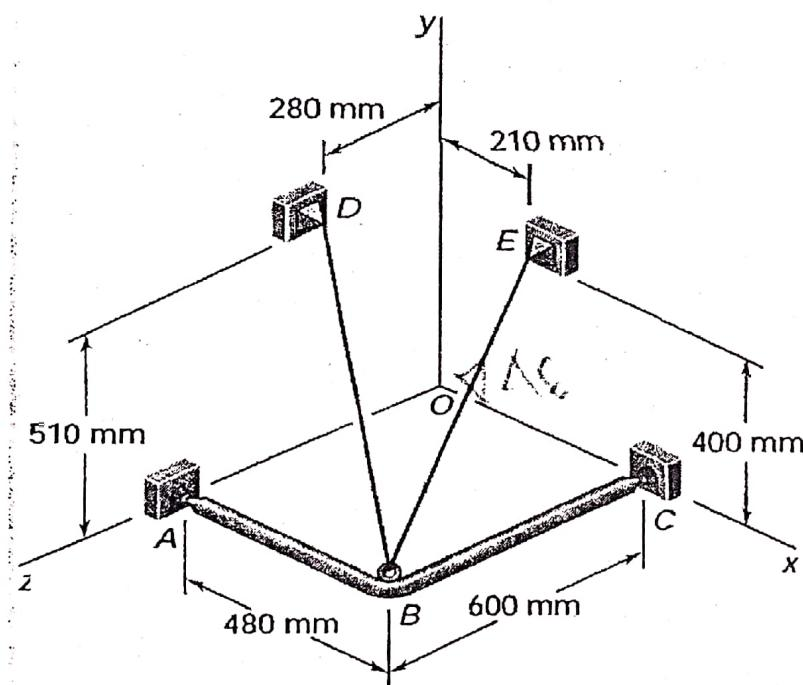

Figure Q 6 (a)
- (a) A frame ABC is supported in part by cable DBE that passes through a frictionless ring at B as shown in **Figure Q 6 (a)**. Knowing that the tension in the cable is 385 N, determine the components of the force exerted by the cable on the support at E.
- (b) A lever AB is hinged at C and attached to a control cable at A as shown in **Figure Q 6** (6)